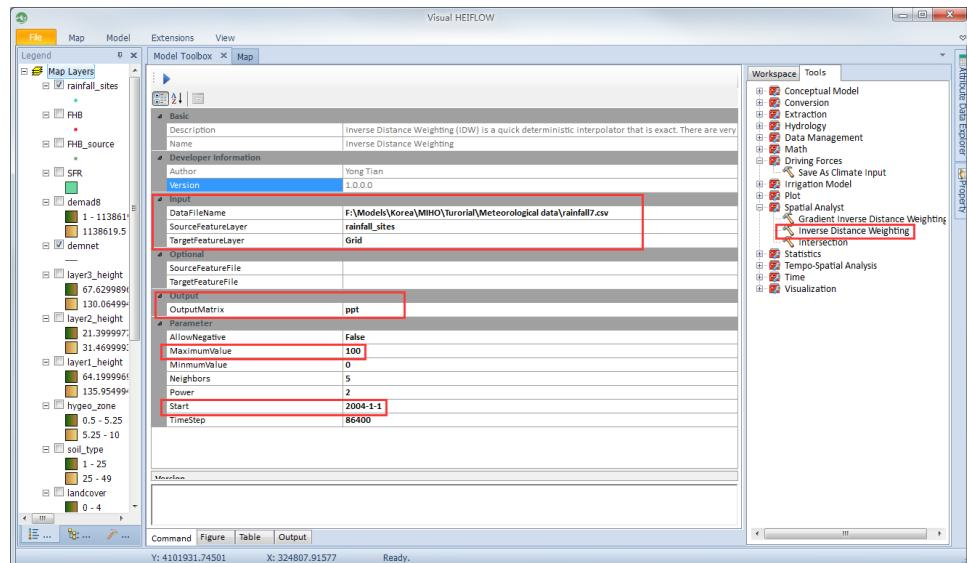

Figure 6-3. Input and Parameter settings for the Inverse Distance Weighting tool.
- 4) Set the other Input and Parameter settings as shown in Figure 6-3. Click Run. When finished, a matrix named “ppt” appears in the Workspace.